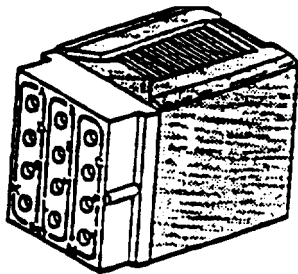
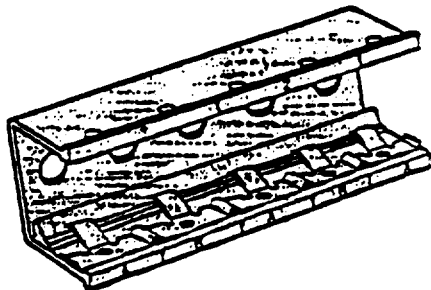
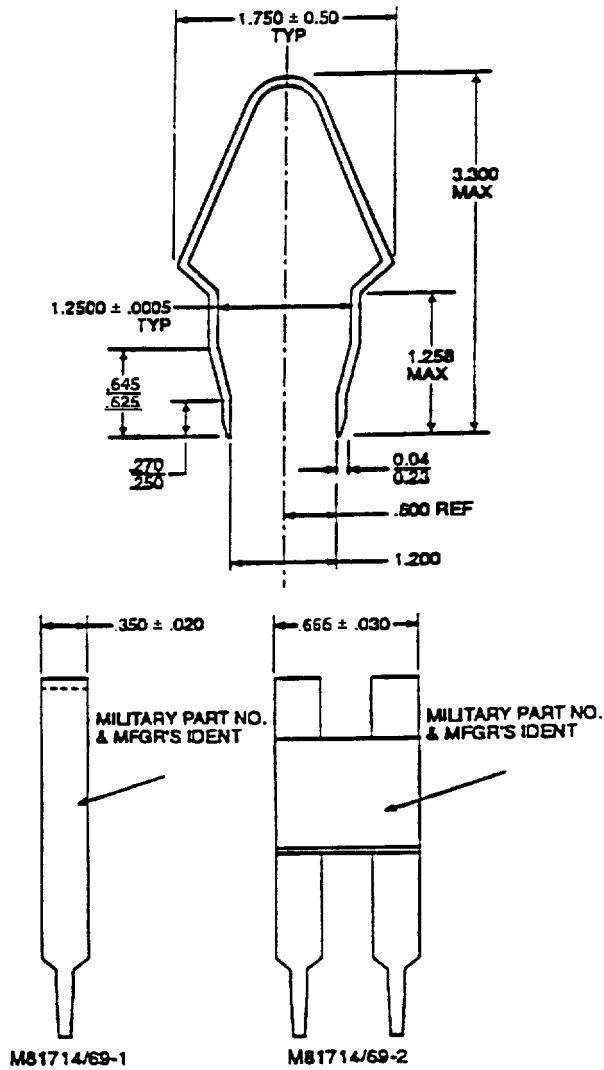

Figure 5. Feedback TJS Block
Figure 7. Series II TJS Rack
Figure 14. Series II TJS Block Removal Tools
19. **TERMINAL JUNCTION FEEDBACK BUSSING BLOCKS.** A terminal junction feedback bussing block is a receptacle having multiple internal contacts interconnected in parallel to form one or more circuits. A feedback bussing block (Figure 5) has one face containing contact cavities and is used for general purpose interconnection and bussing. Blocks are normally contained and retained in a rack or mounting bracket (Figures 7 and 8).
21. **RACKS (TRACKS OR RAILS).** A rack (Figure 7) is used to contain and retain a number of blocks. Two types are available, one for feedback blocks and one for feedthrough blocks. The Series I racks have provisions for side or bottom mounting. Blocks are secured to the track by a sliding stop (Series I) or by a latch release system (Series II). The latch system requires a special tool (Figure 14).
28. SERIES II TJS BLOCK REMOVAL TOOLS. These tools are intended only for the removal of series II TJS blocks. The M81714/69-01 tool (Figure 14) is designed to remove M81714/60 size 22, 20, or 16 blocks and M81714/61 size 16 or 20 blocks from the M81714/67 component rack assembly. The M81714/69-02 tool (Figure 14) is designed to remove M81714/60 size 12 blocks, M81714/61 size 12 or 16 blocks and M81714/62 blocks from M81714/67 component rack assemblies.
34. Removal of the blocks requires the tool shown in Figure 14.